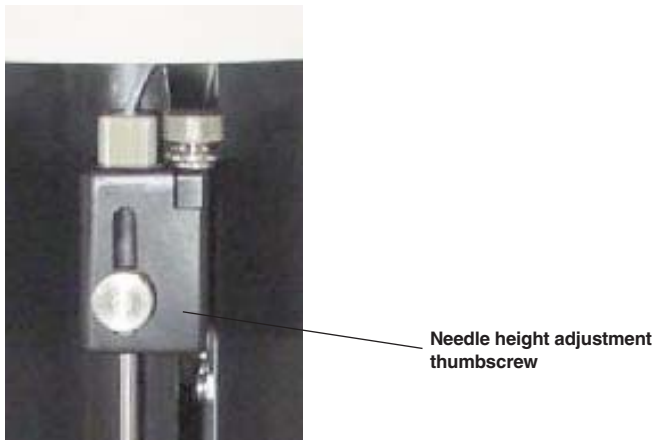

Fig. 17. Sample needle assembly.
11. With the needle in the down position, loosen the needle height adjustment thumbscrew at the top of the needle so that the needle housing can move up and down freely (Figure 17).